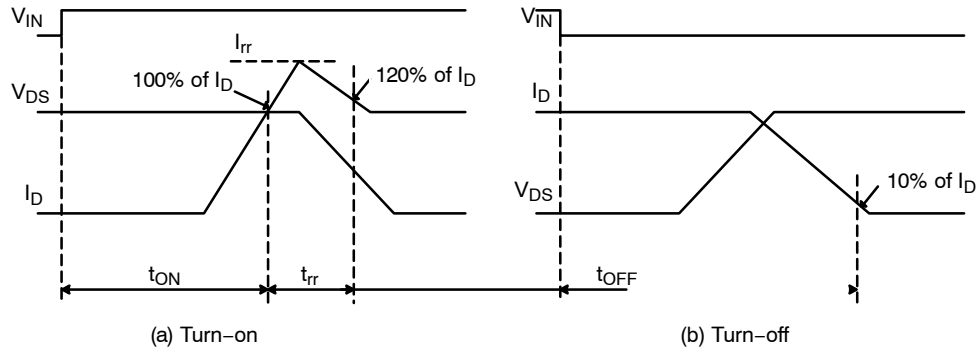
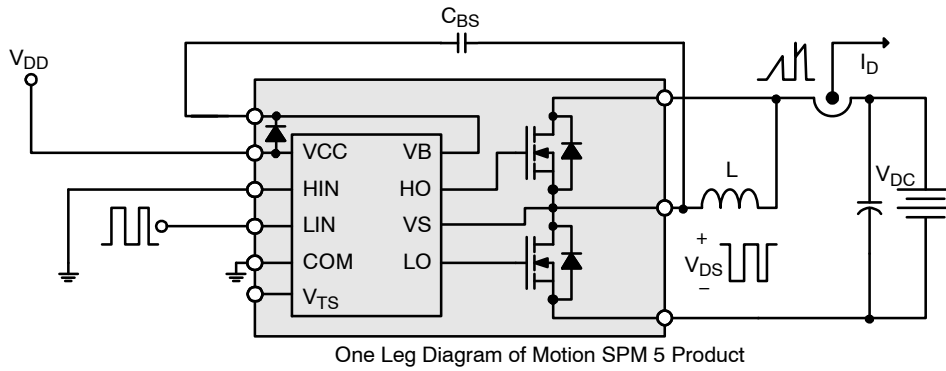

Figure 6. Switching Time Definitions
Figure 7. Switching and RBSOA (Single-Pulse) Test Circuit (Low-side)
5. t_{ON} and t_{OFF} include the propagation delay of the internal drive IC. Listed values are measured at the laboratory test condition, and they can be different according to the field applications due to the effect of different printed circuit boards and wirings. Please see Figure 6 for the switching time definition with the switching test circuit of Figure 7.
6. The peak current and voltage of each MOSFET during the switching operation should be included in the Safe Operating Area (SOA). Please see Figure 7 for the RBSOA test circuit that is same as the switching test circuit.